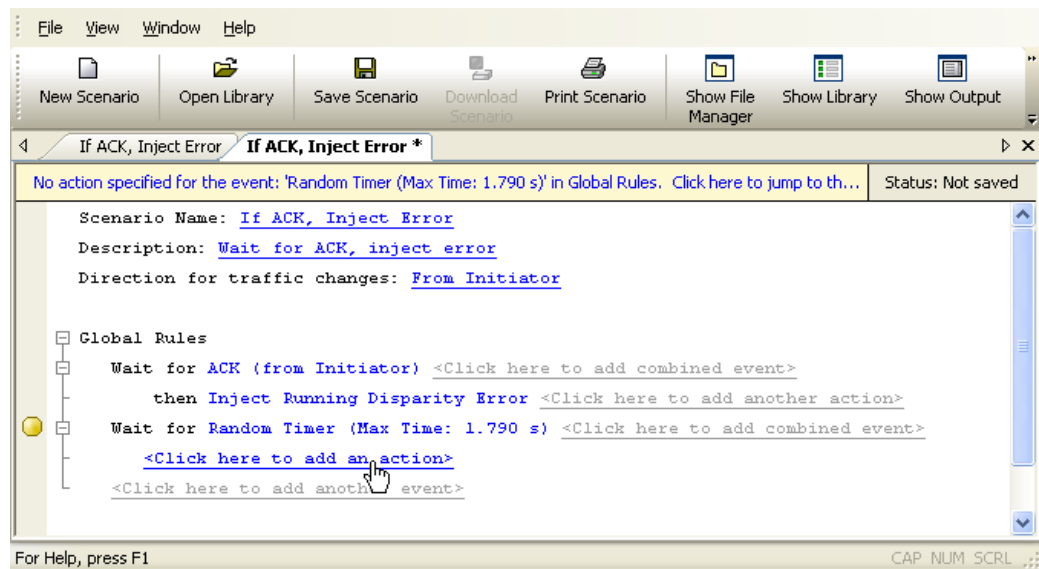

Figure 71 Example 6: Entering Second Action
- Step 6** Click on the prompt to **add an action** to correspond with the second event (Figure 71).